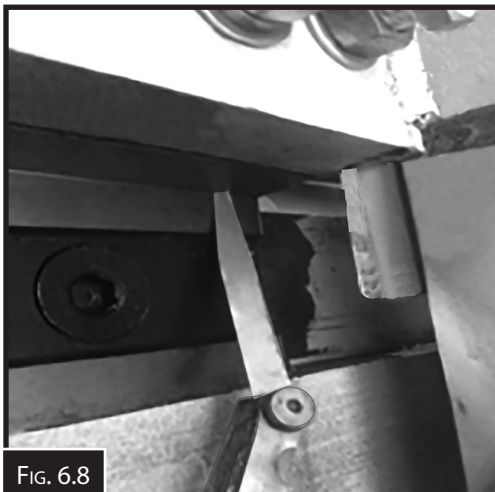

FIG. 6.8
The blade clearance will need to be checked with a feeler gauge (Fig 6.8) by removing the front guard of the machine to access the blade.
- Release the ball valve slowly to allow the upward movement of the blades to check the clearance at set intersecting intervals of the blades. (Fig. 6.8)